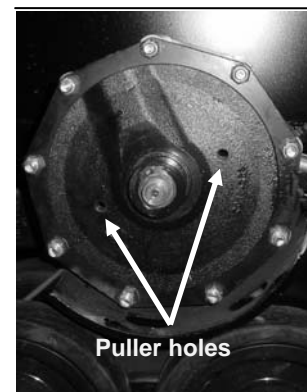

Figure 12-35
2. Install the puller by positioning the push bolt into the end of the sprocket shaft and then threading the puller bolts into the holes in the face of the drive sprocket. (fig. 12-35 & 12-36).